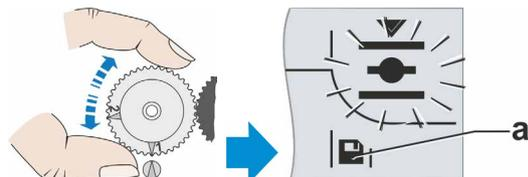

Fig. 8: Turning central wheel until Save symbol (a) is displayed
10. Signaling gear only: Slowly turn the central wheel into the same direction as it has turned when approaching the end position (refer to "Important" in operation step 9), until "Save" symbol is shown in the display (fig. 8 item a).